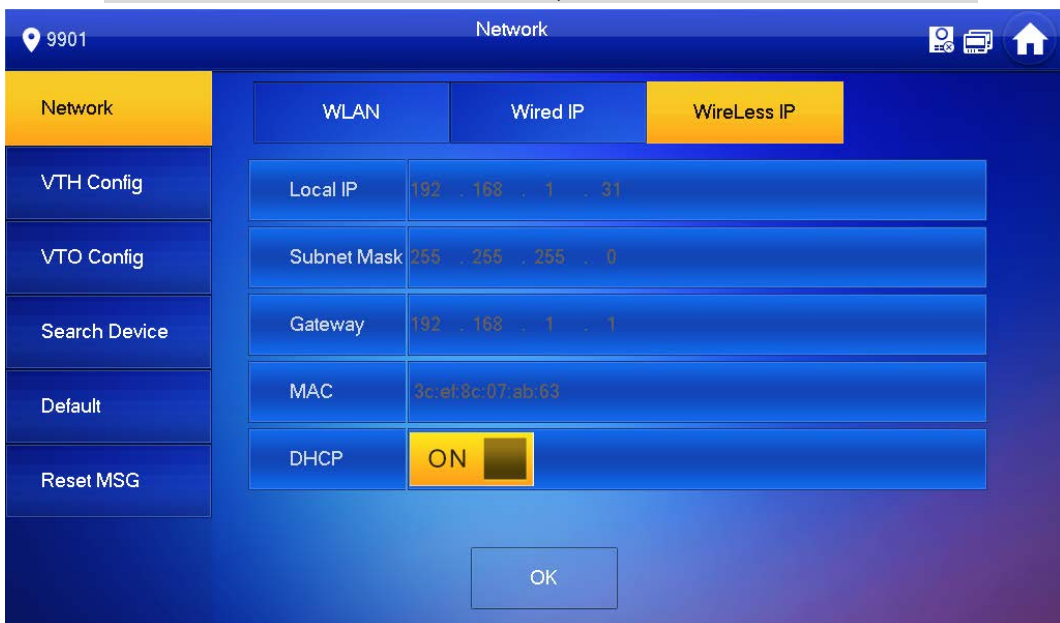

Figure 5-21
- ◇ At “WLAN” interface, select WIFI, click “Wireless IP” tab, press  OFF to enable DHCP function and obtain IP info automatically, as shown in Figure 5-21.